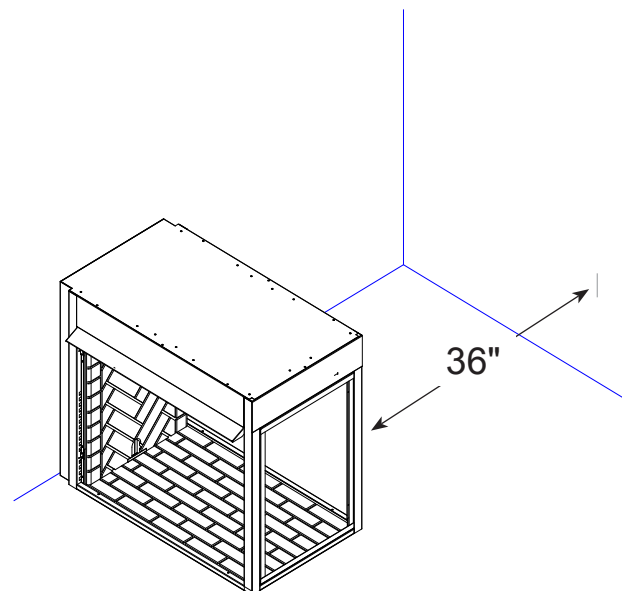

Figure 4 - Parallel Wall Clearance
4. **Parallel Wall Clearance** — The clearance from the opening of the firebox to any wall that is parallel to the opening should not be less than 36" (36STFL and 36PFL models only). *Figure 4*